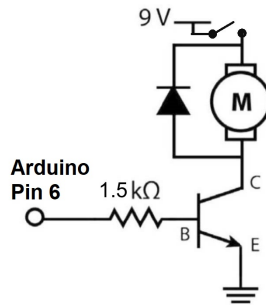
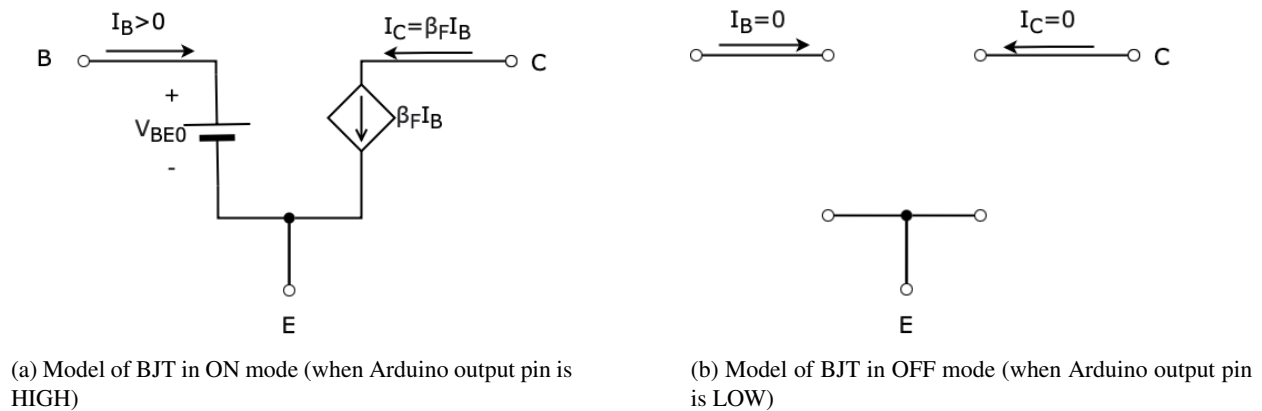

Figure 2: Motor Controller Circuits
Figure 3: Model of NPN BJT in Different Modes
The BJT in Figure 2 is switching between the **ON** and **OFF** modes when the Arduino output pin V_A is HIGH (5V) and LOW (0V) respectively. The model for both ON and OFF states are shown in Figure 3. When the BJT turns on, V_{BE} can be modeled as a fixed voltage source between the Base and Emitter terminals with a voltage value of V_{BE0} , which is usually between 0.6V to 0.8V. In ON mode, there is a **Current Controlled Current Source** modeled between the “Collector (C)” and “Emitter (E)”, i.e., current at the “Collector (C)” is an amplified version of current at the “Base (B)” (notice that I_B has to flow into the “Base (B)” for the relation $I_C = \beta_F I_B$ to hold.) β_F is called the **Common-Emitter Current Gain**. When the Arduino output pin V_A is HIGH (5V), the voltage across the resistor R_B in Figure 2 is $V_{HIGH} - V_{BE0}$. So we can calculate the current flowing into the “Base (B)”, I_B , and the current flowing into the “Collector (C)”, I_C , as
From equations above, we know that the resistor in the motor controller circuit (Figure 2) is used for defining the current flow through the Arduino output pin, BJT, and motor. Therefore, we should carefully choose the value of the resistor considering the maximum current that BJT and Arduino pin can handle and the current required to drive the motor. As we increase the value of the resistor, the current into the “Base (B)” decreases, which in turn reduces the current flow through the motor, slowing down the motor rotation.